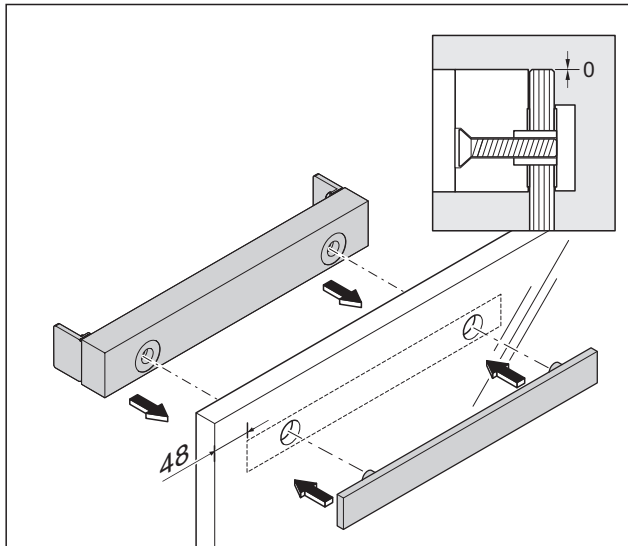

Fig. 11 Attach the screw-on plate and the counter-plate to the drill holes
2. Attach the screw-on plate on the hinge side (inside) and the counter-plate on the opposite side to the hinge (outside) to the glass door's drill holes (Fig. 11).